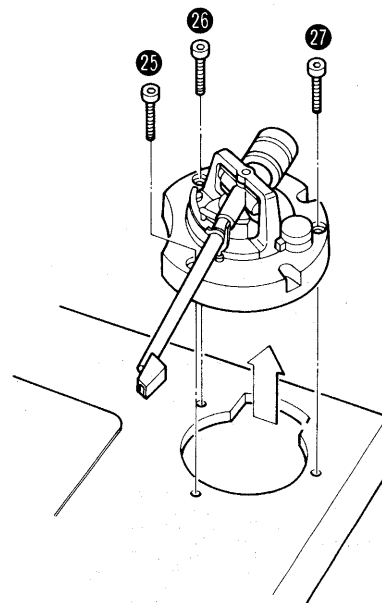

Fig. 7
4. Remove the 3 tonearm base ass'y hex screws (Fig. 7: 25 ~ 27) and lift the tonearm base ass'y in the direction of the arrow, and then the tonearm base ass'y can be removed.